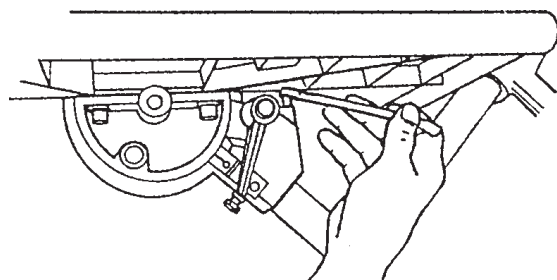
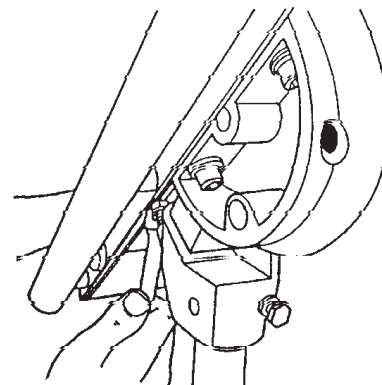

Figure B-71
Figure B-72
39. Tighten the tilt lock, then use a 1/2" wrench to adjust the 45° stop on the front side of the worktable (shown in Figure B-71) and the back side of the worktable (shown in Figure B-72). The stops should just contact the underside of the table.